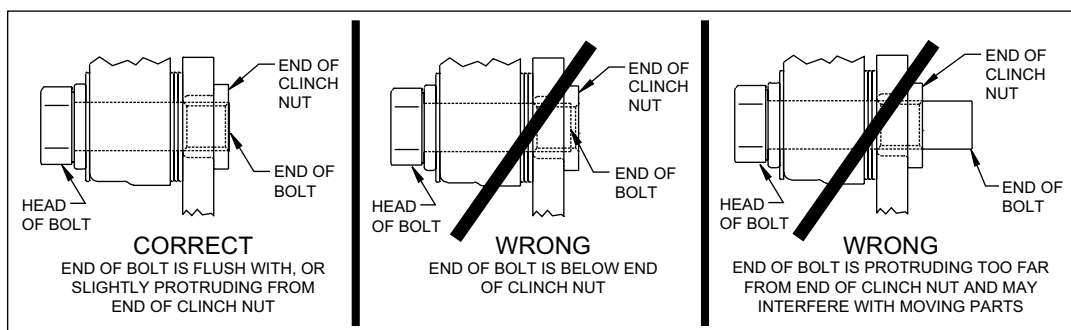

Figure 3. Clinch Nut Engagement Diagram
CAUTION: All mounting bolts must fully engage clinch nuts. Be sure to check that all bolts are either flush or protruding through flanged side of clinch nut after shimming, Figure 3.
STEP 7 Slide the rotor (16) onto the axle flange. **NOTE:** The rotor must fit flush against the axle flange or excessive rotor run out may result. Install three lug nuts (finger tight) to keep the rotor in place while continuing with the installation, Photo 7.
STEP 8 **NOTE:** Please reference the caution statement at the beginning of the assembly instructions. Mount the caliper (9) onto the caliper mounting bracket (2) using bolts (10) and washers (11), as shown in Figure 1. Initially place two .035" thick shims (12) on each bolt between the caliper and the bracket, Photo 8. Temporarily tighten the mounting bolts and view the rotor (16) through the top opening of the caliper. The rotor should be centered in the caliper, Photo 9. If not, adjust by adding or subtracting shims (12) between the bracket and the caliper. Always use the same amount of shims on each of the two mounting bolts. **NOTE:** The end of each bolt must be flush with or slightly protruding from the head of the clinch nut, as shown in Figure 3. If necessary place spare shims (12) between washer (11) and caliper mounting ear to achieve the proper clinch nut engagement. Once the caliper alignment and clinch nut engagement are correct, remove the bolts (10) one at a time, apply red *Loctite*® 271 to bolt threads, and torque to value shown in Figure 1.